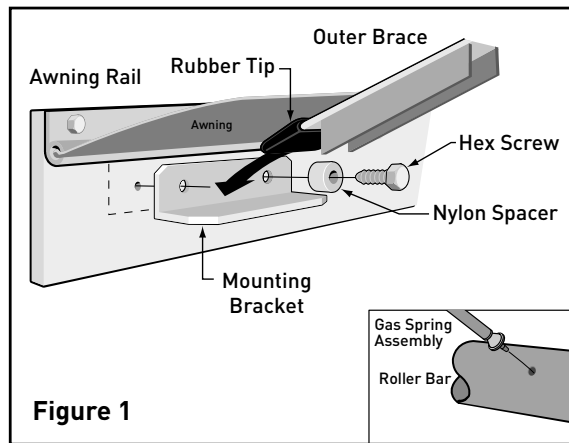
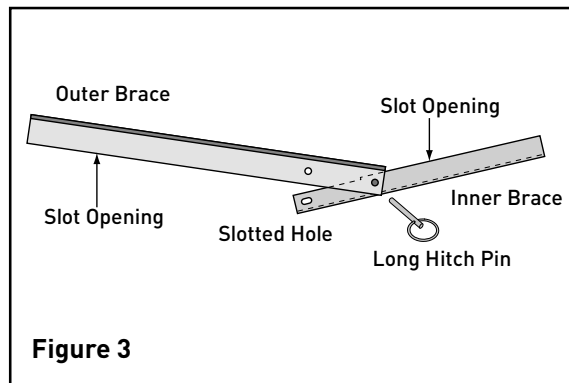

Figure 1
Figure 3
Step 4. Attach the mounting bracket using the two supplied screws with one nylon spacer on each screw as shown in Figure 1. Be certain that the screws are installed straight, if they are crooked the rubber tip of the Center Brace will not seat properly between the nylon spacers.
Step 8. Assemble the outer brace and the inner brace together using one of the long hitch pins as shown in figure 3. Place a rubber tip over the end of the outer brace as shown in figure 1.
Step 9. Hold the outer brace with the slot opening facing downwards and set the flat end with the rubber tip into the mounting bracket under the awning rail. Make sure the rubber tip is positioned between the installed screws and nylon spacers on the bracket (see Figure 1). The open slot of the outer brace should be facing down and the open slot of the inner brace should be facing up. Failure to position the outer brace and inner brace correctly will result in incorrect operation of the Center Brace